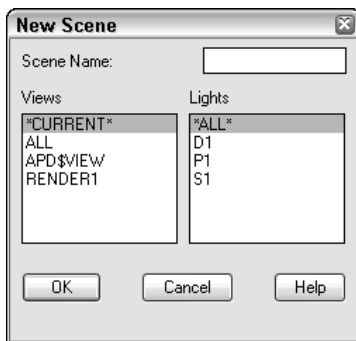

Figure 25-17: The New Scene dialog box
1. Click New to open the New Scene dialog box, shown in Figure 25-17. The New Scene dialog box lists all the saved views and all the lights you have created.